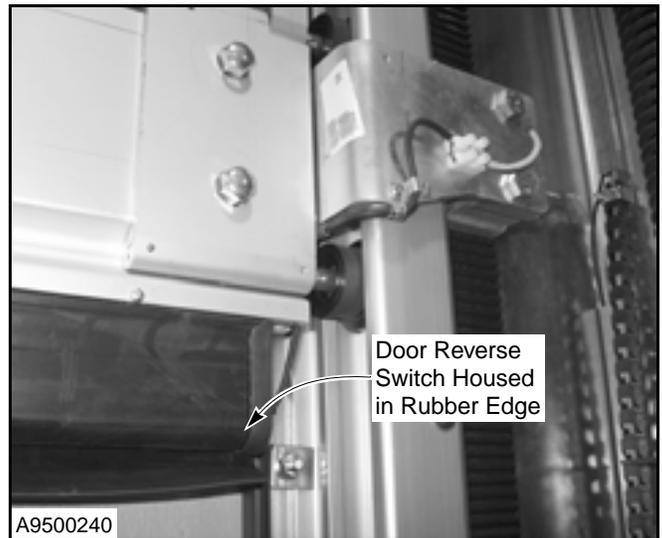

Figure 86
- With the door fully open, press the door close (▼) button. As the door begins to come down, test the door reversing edge by hitting the bottom (rubber) edge of the door. (See Figure 86.)